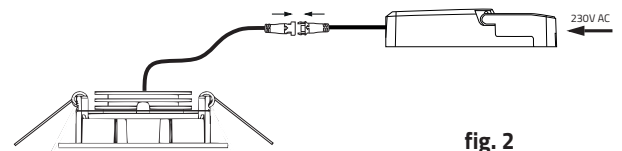

fig. 2
2. Connect the TALU recessed downlight to the secondary side line of the converter using the connector supplied with the matching counterpart of the connector. Connect the existing 230 V AC mains voltage to the primary side of the converter (fig. 2).